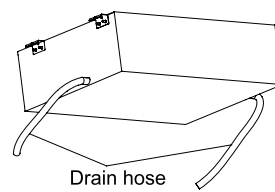

Figure 3-1-10
- (5). Use a suitable drain hose, and see Table 3-2-4 for its size.
- (6). There is a drain port on both the left and right sides. Select
- (7). the drain port to match the local conditions.(Figure 3-1-10)
- (8). When the unit is shipped from the factory, the drain port is
- (9). defaulted to be the one on the left side (electric box side), the
- (10). port on right side has been plugged.
- (11). When using the drain port on the right side of the unit,